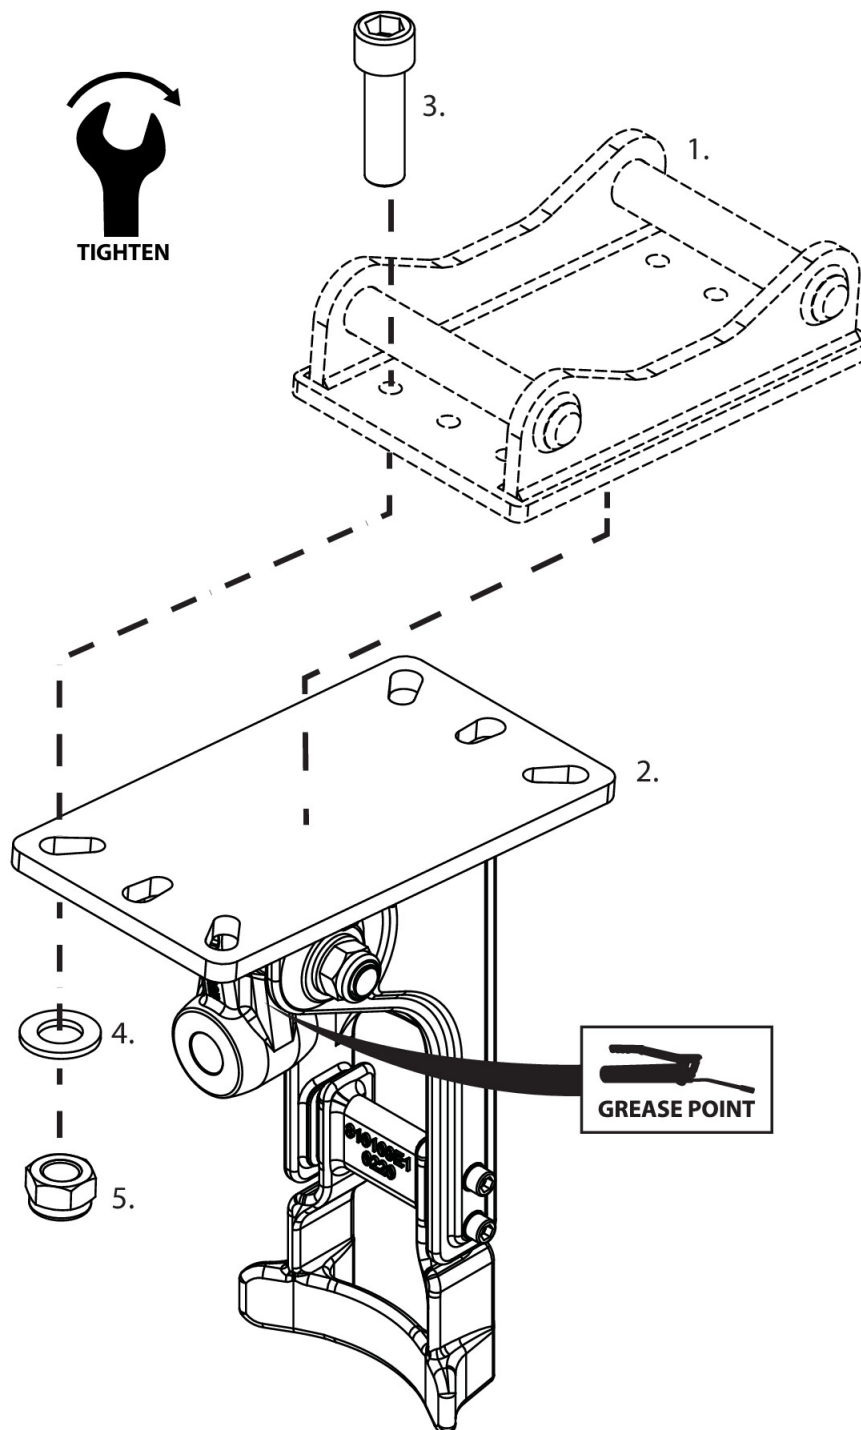

Fig. 10
1. Fit and align item 1 to item 2. **Fig.10.**